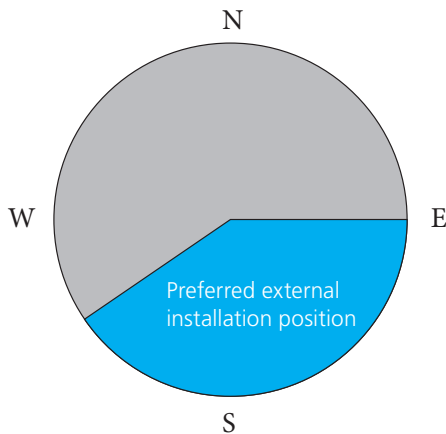

Figure 1.
- The area marked in blue on the compass in Figure 1 shows the preferred location of the Platypus Sprinkler Controller.